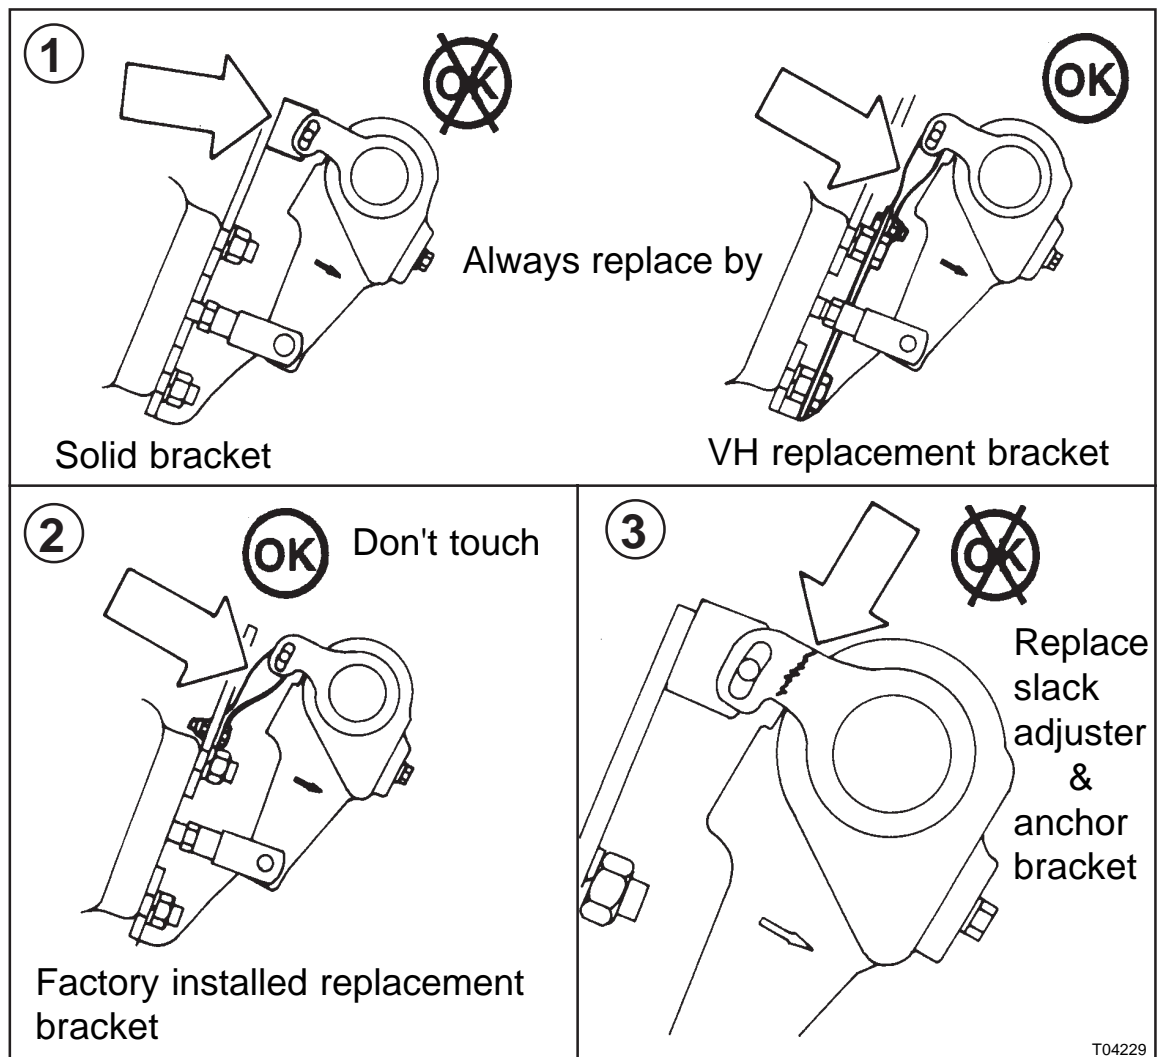

Figure 2: View on slack adjuster of drive axle
5. From underneath the vehicle, at the drive axle, check the slack adjuster anchor bracket (see figure 2, No.1 and 2)
7. Carefully inspect slack adjuster control arm for cracks. Even if minor cracking is visible, slack adjuster should be replaced (see figure 2, No. 3).